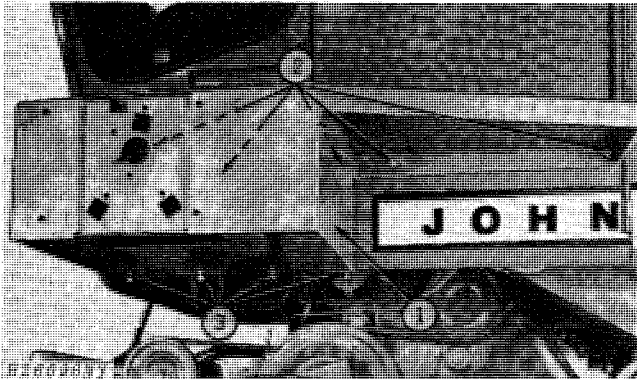

Fig. 11-Installing Ladder Landing
1. Before installing ladder landing, screw two 5/16 x 1/2-inch self-tapping screws into back of landing until screw heads are 1/8-inch (3 mm) from landing (Fig. 11).
2. Lift ladder landing into place and attach with existing hardware. Be certain slots in front and rear skirts slip down on the two screws installed in Step 1 (Fig. 11). Tighten screws.
3. Attach ladder landing with four 3/8 x 7/8-inch cap screws (Fig. 11).